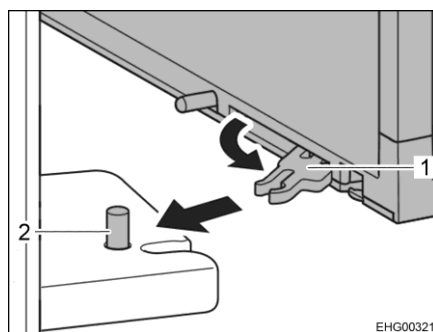

Fig. 93 Refrigerator door locking mechanism
■ On the inner side of the refrigerator door, fold out and pull forward the spacer (Fig. 93,1) at the top and the bottom.
■ Let the spacers snap in at the appropriate pin (Fig. 93,2).